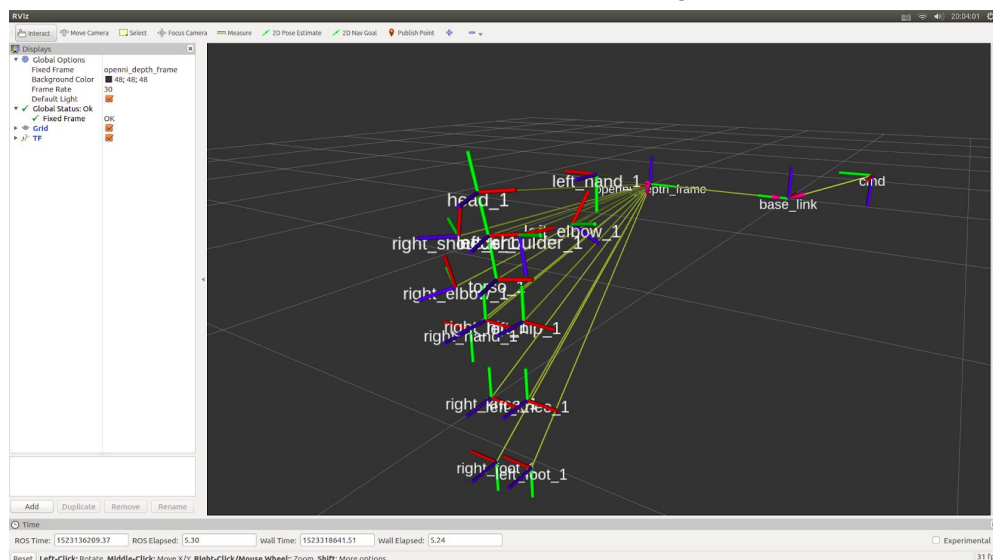

Fig. 1 Testing `kinect_teleop` in RViz
- We used `openni_tracker` ([https://github.com/ros-drivers/openni\\_tracker](https://github.com/ros-drivers/openni_tracker)) package for skeleton tracking and it works perfectly on our laptops (see Fig. 1).
- The node `kinect_teleop` is done (see Fig. 1).